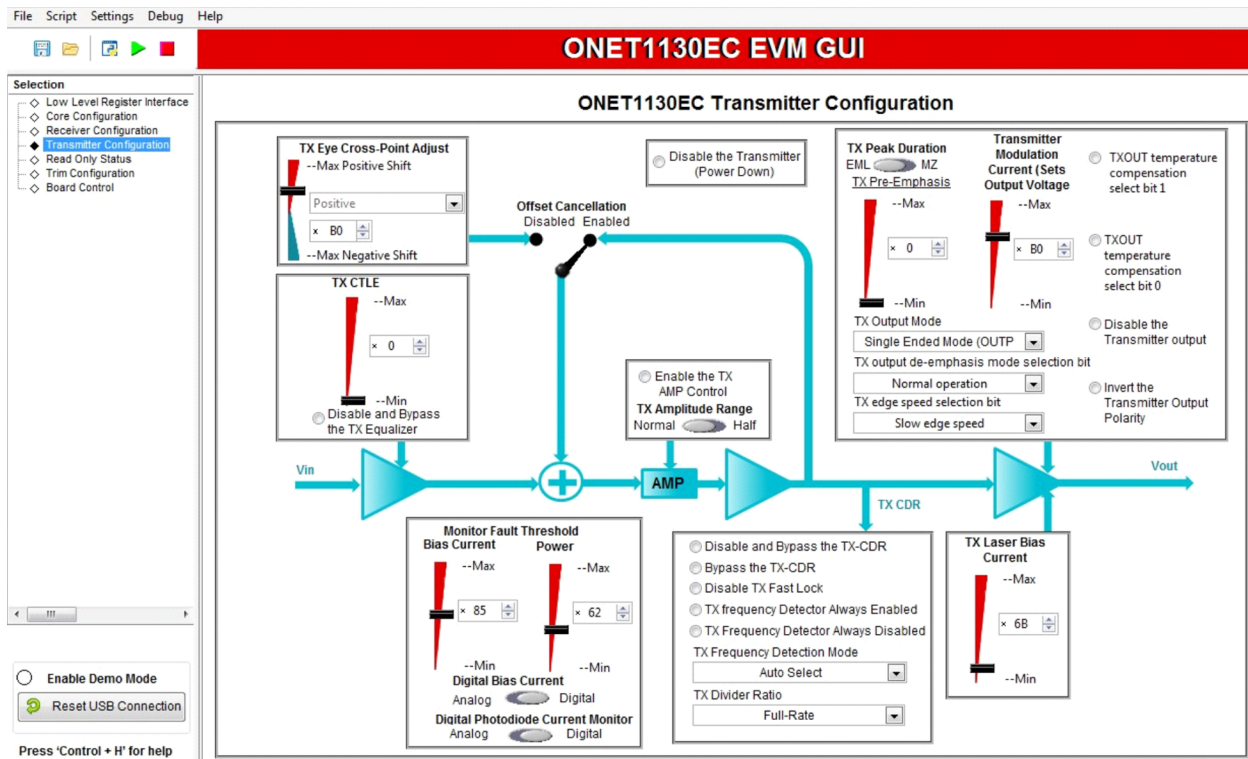

Figure 10. Transmitter Configuration Page
8. Go to the *Transmitter Configuration* page as shown in Figure 10.